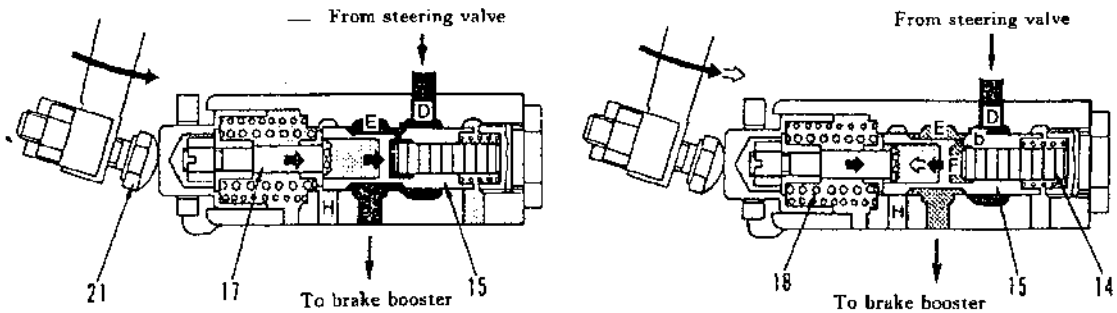

Fig. 2-74
The passage between ports E and F is closed and the passage between ports D and E is open so that the oil flows to the brake booster. On the other hand, the oil entering the port through orifice "b" pushes piston (14). The reaction force pushes back brake valve (15) in the direction of the arrow to compress spring (1) and close the passage between ports D and E. In this state, the oil pressure in the circuit from port E to the booster balances the installation load of spring (18) to keep the oil pressure at a constant level. If the steering lever is pulled further from this state, the installation load of spring (18) increases gradually and the oil pressure after port E rises to start operation of brake. (See Fig. 2-74).